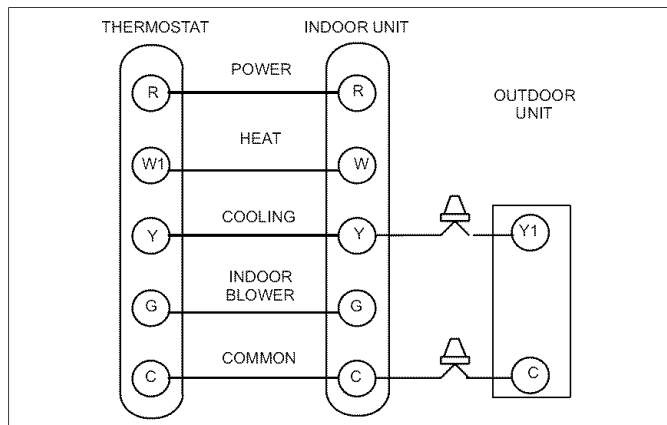

Figure 26. Typical Field Low Voltage Wiring
Refer to the indoor unit installation instruction for additional wiring application diagrams and refer to unit nameplate for minimum circuit ampacity and maximum overcurrent protection size. Figures 26 and 24 illustrate typical outdoor unit wiring diagrams for the 13ACD series heat pumps.
5. Install low voltage wiring from outdoor to indoor unit and from thermostat to indoor unit as illustrated in figures 26 and 24.